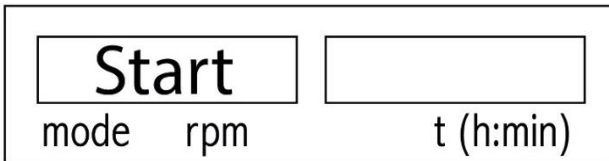
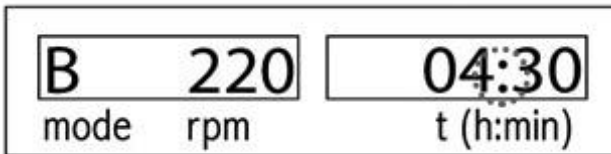

Figure 17: Operating Mode B – moment of rotating operation
Figure 18: Operating Mode B – device is in rotating operation
- Once the settings become set, by pressing the left rotary knob, the device will start working (figure 18) at the saved speed and time settings after displaying "Start" word (figure 17) on the display.